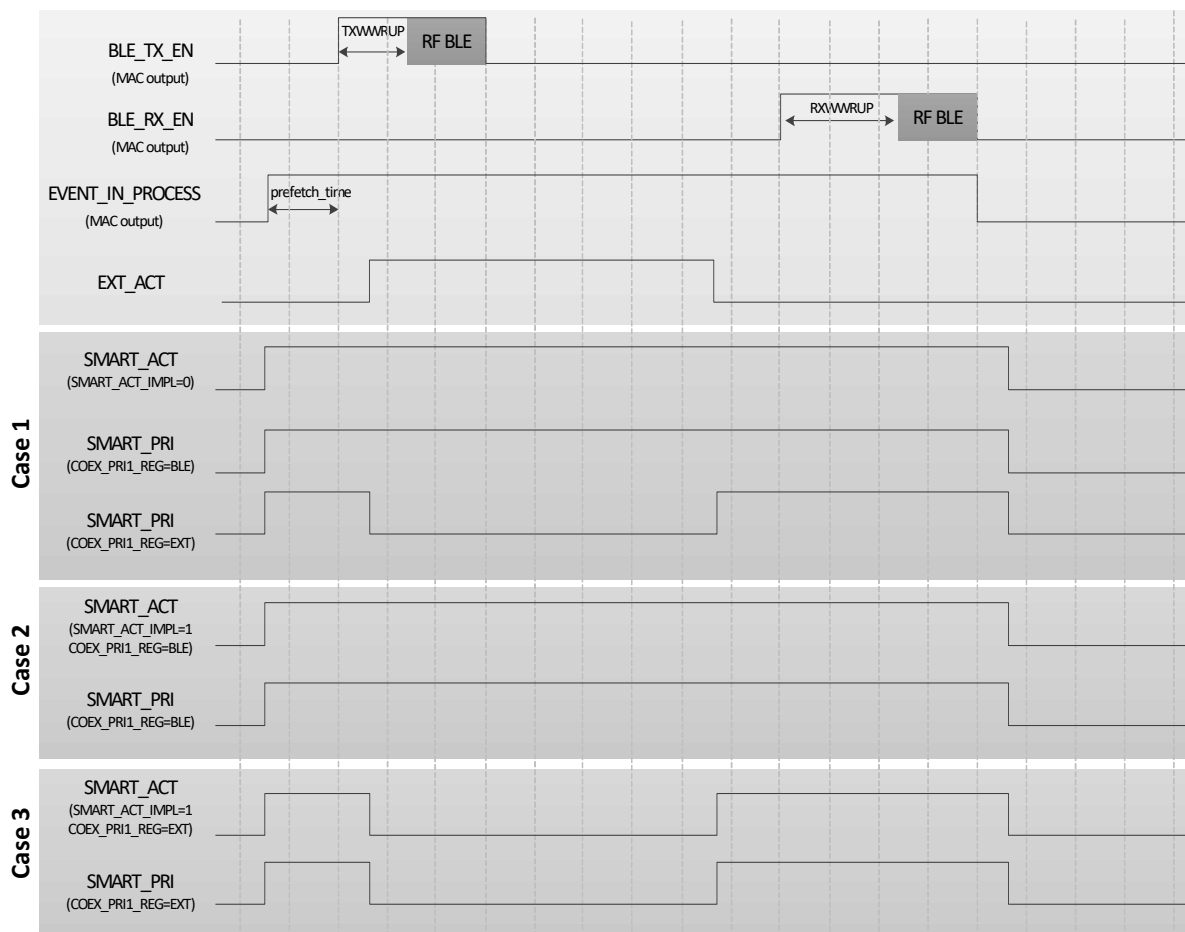

Figure 130: Coexistence signalling cases
2. SMART\_ACT: this is an output from the DA14682 and when asserted it designates that the DA14682 is transmitting or receiving hence an external device should be aware of the radio activity. The exact timing of the assertion of this signal is depicted in Figure 130.
An overview of the aforementioned scenarios is presented in Figure 130.